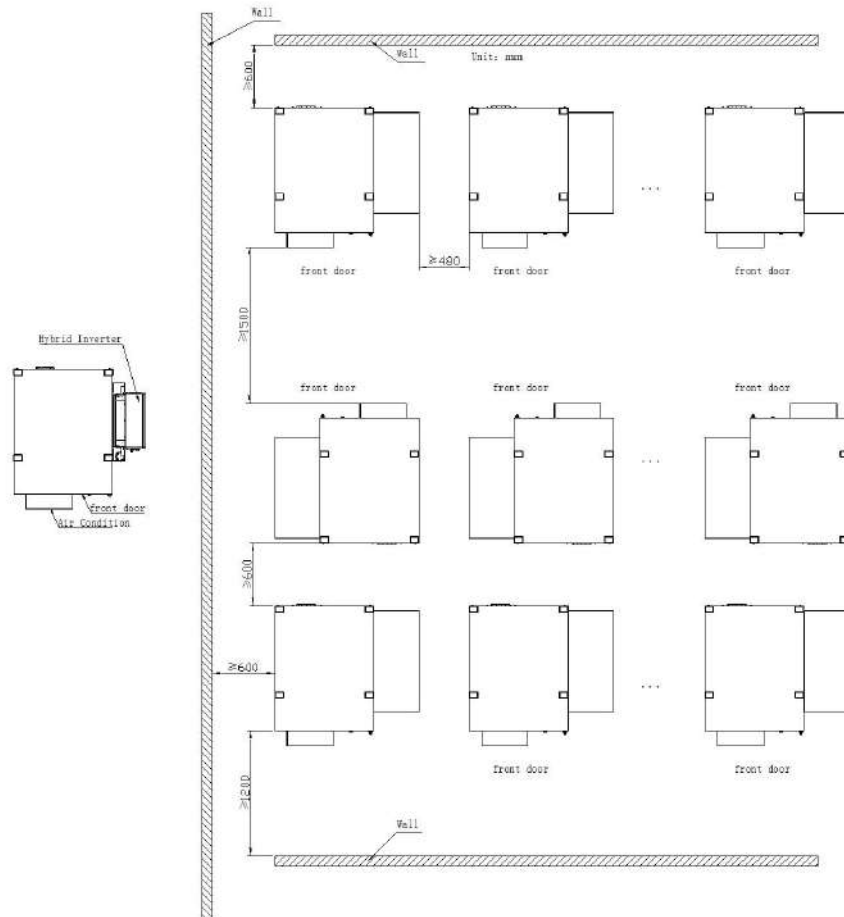

Figure 5-1 Product installation distance requirement
7. Select an open location according to the requirements of Figure 5-1 and ensure there are no obstacles from surrounding areas.